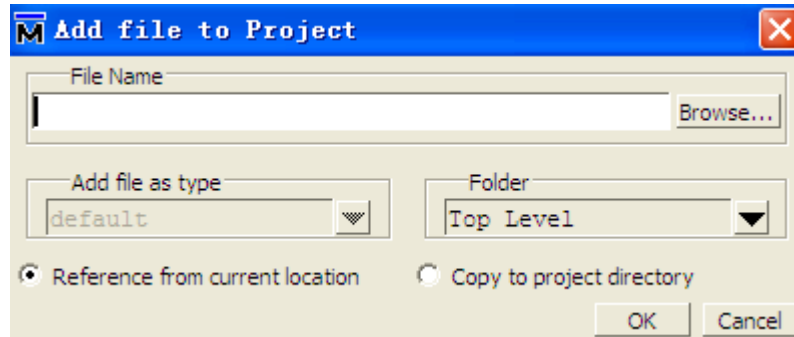

Figure 2.14 Add file to project
8. Select **Project > Add to Project > Existing File**, shown in Figure 2.14.